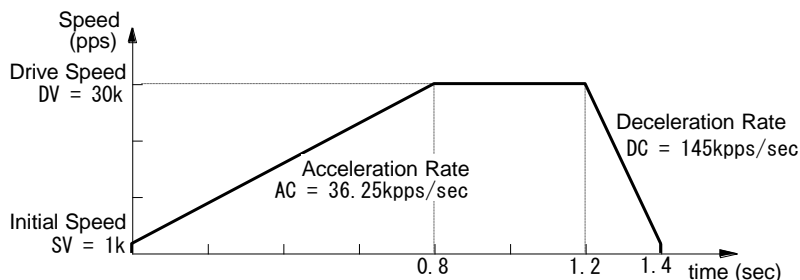
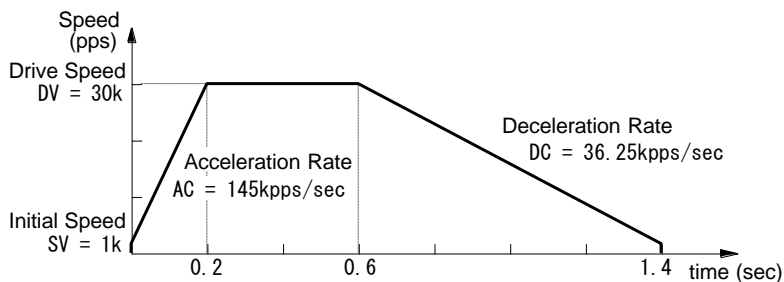

Fig. 2.2-6 Non-Symmetrical Linear Acceleration Driving (acceleration < deceleration)
Fig. 2.2-7 Non-Symmetrical Linear Acceleration Driving (acceleration > deceleration)
This IC can perform automatic deceleration in non-symmetrical linear acceleration / deceleration fixed pulse driving where acceleration and deceleration are different. It is not necessary to set a manual deceleration point by calculation in advance. Fig. 2.2-6 shows the case where the deceleration is greater than the acceleration and Fig. 2.2-7 shows the case where the acceleration is greater than the deceleration. In such non-symmetrical linear acceleration, the automatic deceleration start point is calculated by the IC based on the number of output pulses in fixed pulse driving and each rate parameter.
- In non-symmetry linear automatic acceleration / deceleration driving, when acceleration > deceleration (Fig. 2.2-7), the following condition is applied to the ratio of acceleration and deceleration. In this case, set drive speed at 4Mpps or less.
- In non-symmetry linear automatic acceleration / deceleration driving, if acceleration > deceleration (Fig. 2.2-7), the greater the ratio of acceleration AC to deceleration DC becomes, the greater the number of creep pulses becomes (about maximum of 10 pulses when AC/DC=10 times). When creep pulses cause a problem, solve the problem by increasing the initial speed or setting a minus value to the acceleration counter offset.
As shown in Fig. 2.2-6, parameter setting of relative position driving in non-symmetry linear automatic acceleration / deceleration (acceleration < deceleration) is shown below.